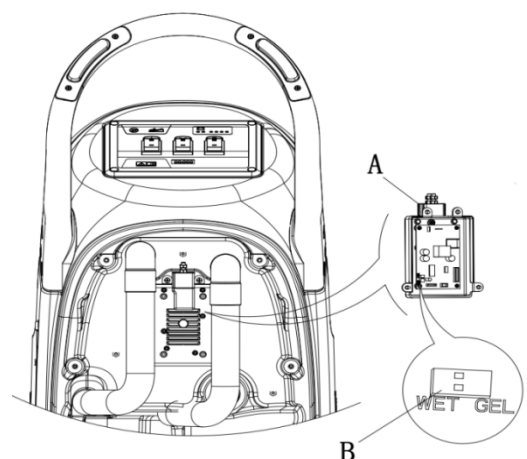

Figure 5
1. Make sure the connector (9) of the battery is disconnected. The factory setting is for GEL batteries. If the setting correspond to the battery installation, go to step 7 directly. Otherwise, follow next steps 2~5.
2. Take down the drain hose (15) from the clip.
3. Unscrew the screws on control box cover (5), battery cover (10) and PCB bracket (A, Figure 5), then turn over the PCBA to find the DIP switch (B, Figure 5) for setting battery type(WET or GEL).
4. Adjust the micro DIP switch (B) to the position of "WET".